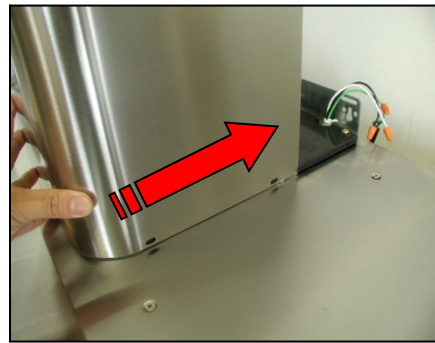

Figure 28
6. Slide the inner duct cover up 2 inches before sliding the entire duct cover onto the hood. Refer to Figure 28.